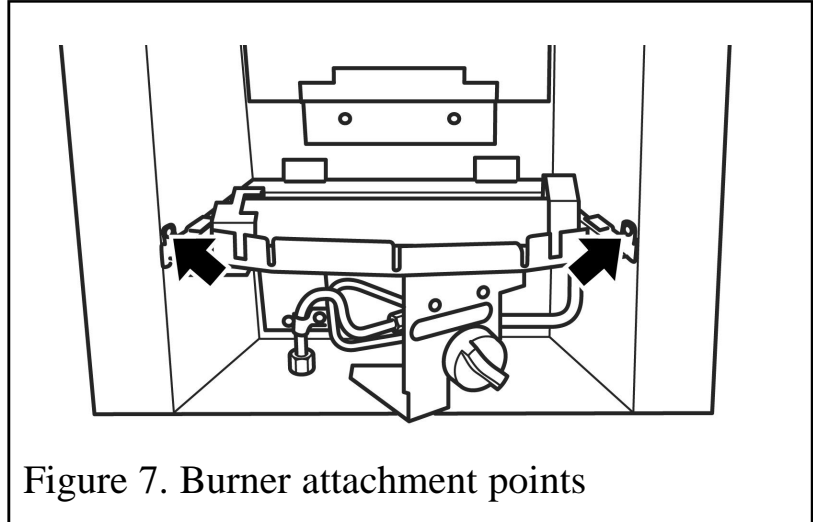

Figure 7. Burner attachment points
2. Detach the burner unit from the convector box by removing two screws (See figure 7). Lift the burner unit clear.